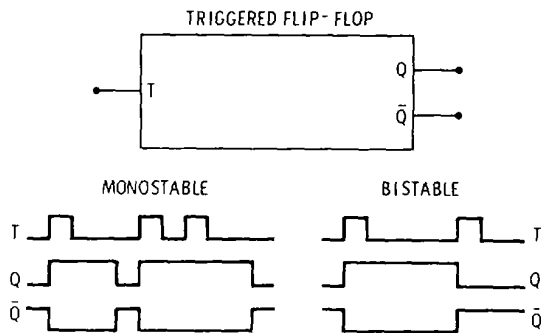

Figure 8-4. Triggered Flip-Flop
8-44. Triggered Flip-Flop. There are two kinds of triggered flip-flops. The bistable triggered flip-flop toggles (changes states) each time the trigger input (T) changes states (shown in Figure 8-4). This effectively divides the input by two, giving one output pulse at the Q output for every two input pulses.